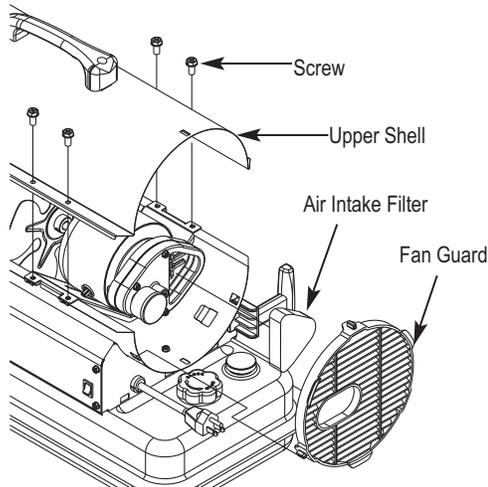

Figure 7 - Air Filter Access
- Remove upper shell and fan guard (See Air Intake Filter Figure 7).